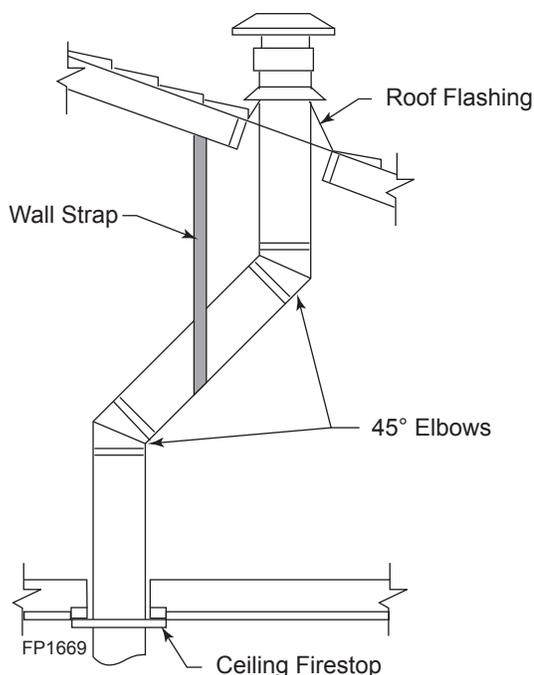

Figure 26 -
1. Determine the route your vertical venting will take. If ceiling joist, roof rafters or other framing will obstruct the venting system, consider an offset. Refer to Figure 26 to avoid cutting load bearing members.